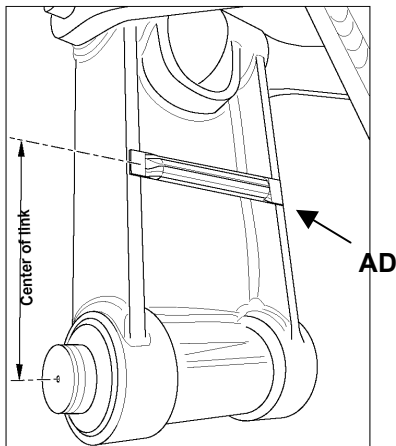

Fig. 16-2
11. You are now ready to mount the optional Tubular Hose Retainer Bracket (**Chart #5 - AD**). This piece of tubing mounts to the inside of the bucket H-Link. It is designed to guide the hoses and help prevent hose chaffing. Position the tubing in the center of the link and weld it securely using E7016 or E7018 welding rod, or equivalent (see **Fig. 16-2**).